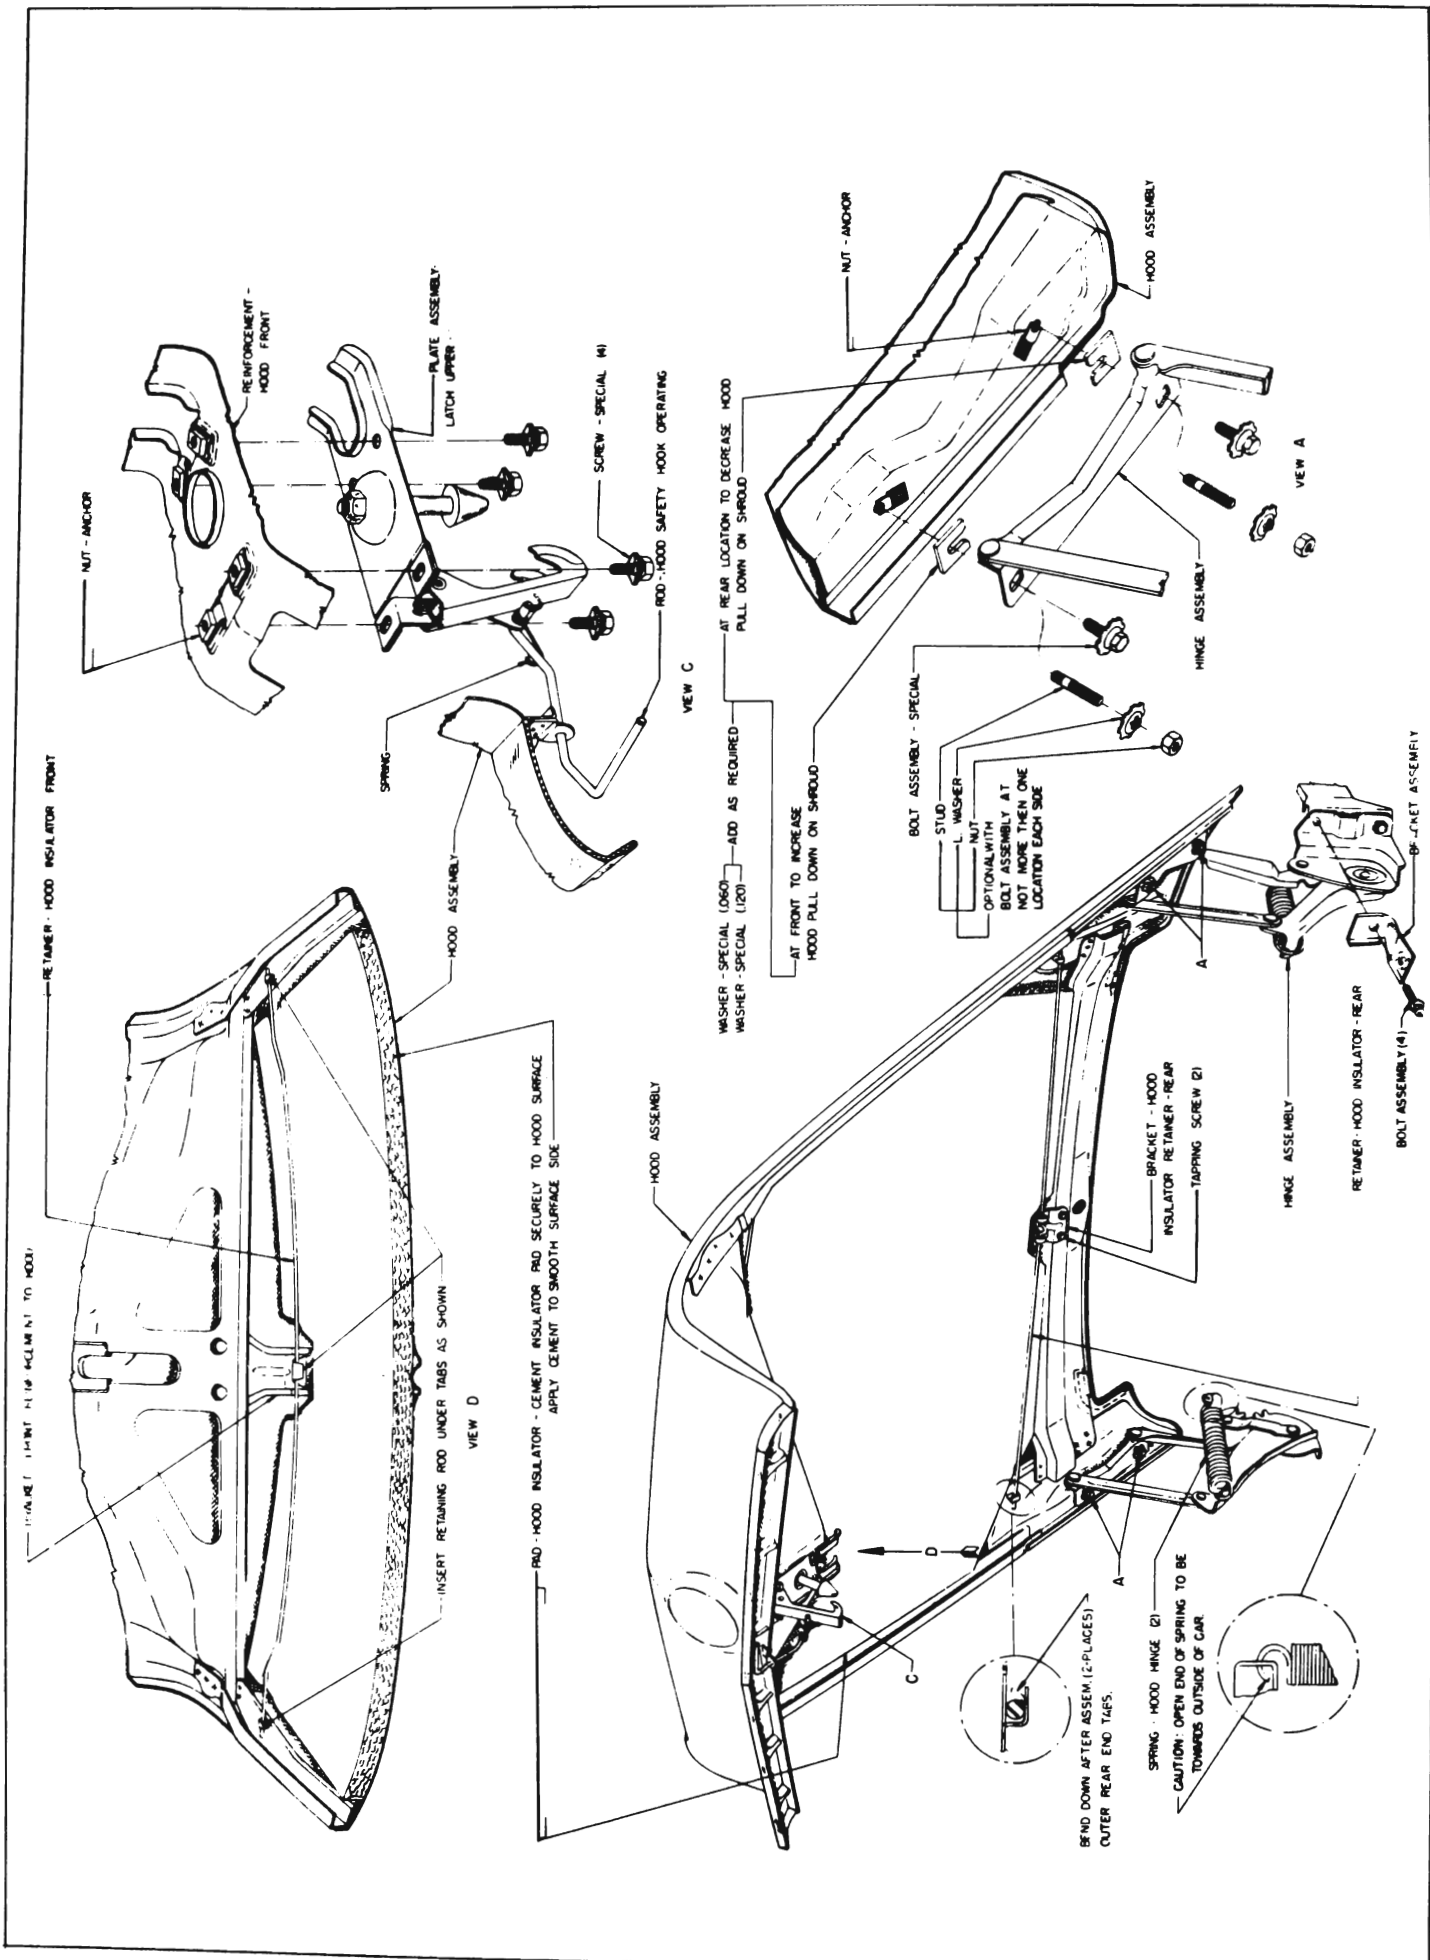

Figure 12-9—Hood Assembly
The rear end of the hood is attached to the body cowl on each side by hinge assemblies which permit the front end of hood to be raised, alligator type. A heavy coil spring connected between each hinge assembly assists in raising the hood, and holds it in the open position. See figure 12-9.
The front end of hood is locked down by a dovetail bolt on hood which engages a lock lever in the latch mounted on a panel of the front end sheet metal assembly (fig. 12-9). The hood is unlocked by lifting a release lever located beneath radiator grille frame. A safety hook mounted on the hood must then be pulled forward before the hood can be raised.
To prevent hood panel flutter, the rear end of hood panel must have firm contact with the rubber lacing attached to cowl ledge. The hood may be raised or lowered by adjustment at hinges. See figure 12-9.
Raise and lower the front end of hood slowly several times to check for proper alignment between the dovetail bolt in hood and the latch on sheet metal panel. Dovetail bolt should enter the opening in latch without any side strain or other interference. See figure 12-9.
2. *Rear Tension.* Too little tension is indicated if the rear hood area flutters. To increase tension, add shims between the hood and the hinges at the front bolts. See figure 12-9.
Too much tension is indicated if the rear area of the hood bends as it is closed. To decrease tension, add shims between the hood and the hinges at the rear bolts. See figure 12-9.
To adjust the latch bolt, loosen the jam nut on the upper end and turn the bolt by means of the screwdriver slot in the lower end. Then tighten the jam nut and close the hood to recheck latch tension. See figure 12-9.